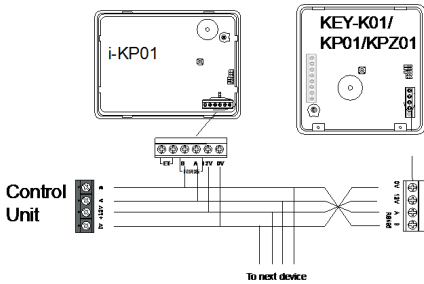

Figure 20 Keypad Connection
Figure 20 shows the wiring connections at the keypad and control unit.
8. Connect the new keypad (see Figure 20).